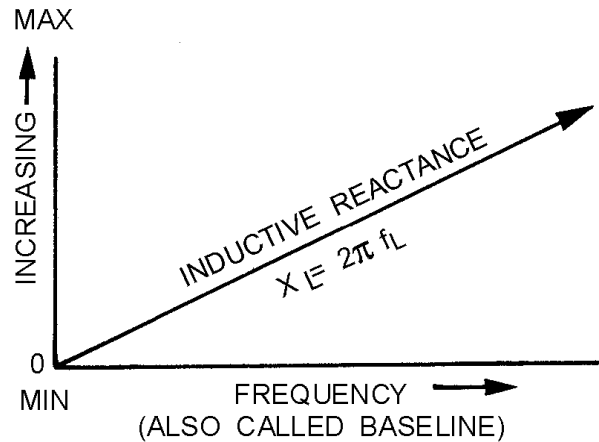
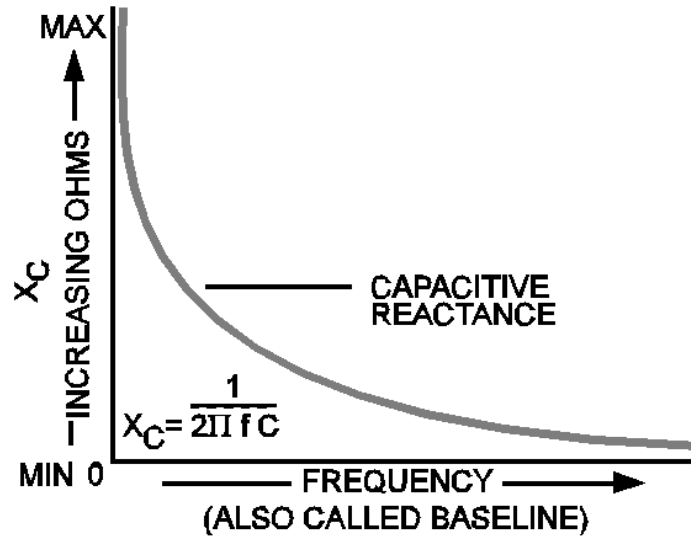
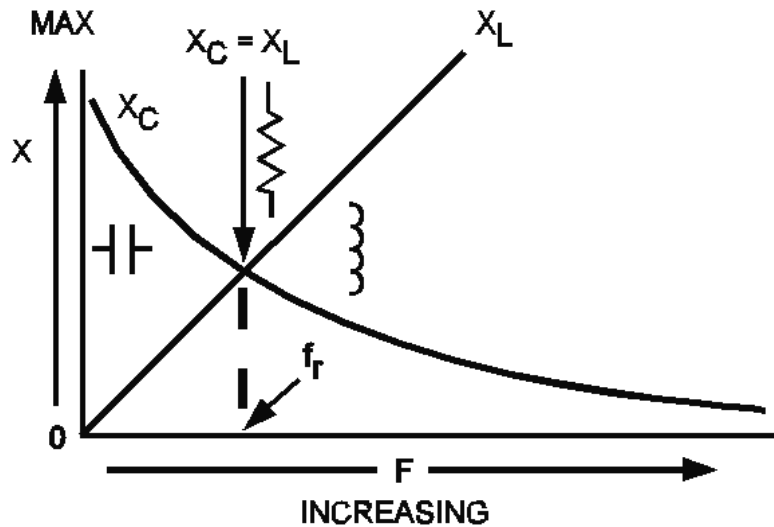

Figure 1-2.—Effect of frequency on inductive reactance.
Figure 1-3.—Effect of frequency on capacitive reactance.
Figure 1-5.—Relationship between  $X_L$  and  $X_C$  as frequency increases.
As shown in the equation, any increase in frequency, or "f," will cause a corresponding increase of inductive reactance, or " $X_L$ ." Therefore, the **INDUCTIVE REACTANCE VARIES DIRECTLY WITH THE FREQUENCY**. As you can see, the higher the frequency, the greater the inductive reactance; the lower the frequency, the less the inductive reactance for a given inductor. This relationship is illustrated in figure 1-2. Increasing values of  $X_L$  are plotted in terms of increasing frequency. Starting at the lower left corner with zero frequency, the inductive reactance is zero. As the frequency is increased (reading to the right), the inductive reactance is shown to increase in direct proportion.
As shown in figure 1-3, the effect of capacitance is opposite to that of inductance. Remember, capacitance causes the current to lead the voltage by 90 degrees, while inductance causes the current to lag the voltage by 90 degrees.
A.c. circuits that contain both an inductor and a capacitor have interesting characteristics because of the opposing effects of L and C.  $X_L$  and  $X_C$  may be treated as reactors which are 180 degrees out of phase. As shown in figure 1-2, the vector for  $X_L$  should be plotted above the baseline; vector for  $X_C$ , figure 1-3, should be plotted below the baseline. In a series circuit, the effective reactance, or what is termed the RESULTANT REACTANCE, is the difference between the individual reactances. As an equation, the resultant reactance is:
The universal reactance curves of figures 1-2 and 1-3 are joined in figure 1-5 to show the relative values of  $X_L$  and  $X_C$  at resonance, below resonance, and above resonance.